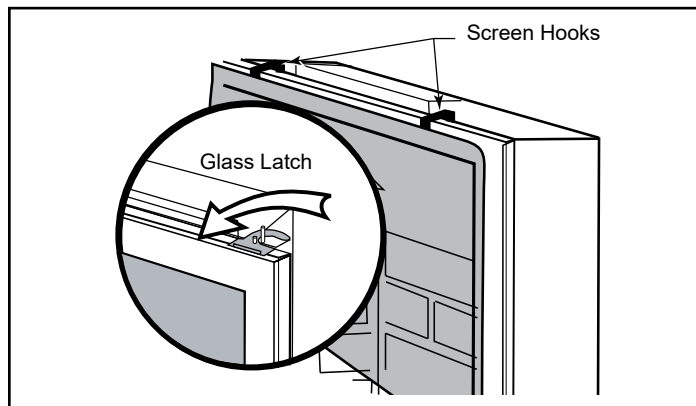

Figure 5.1 - Remove the screen or glass panel.
3. Remove the screen by lifting up and away from the unit. Or, if so equipped, remove the glass panel by rotating the two cams toward the front of the firebox. Lift the panel up and off of the firebox frame, Figure 5.1.